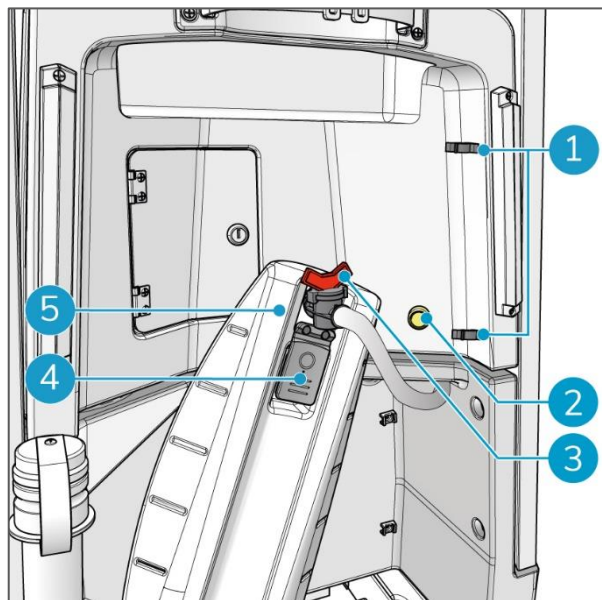

Figure 62
2. Take the filling tube out of the clamps (Figure 62, pos 1).
3. Open the stopper of the i-mop lite (Figure 62, pos 4).
4. Place the filling tube into the tank (Figure 62, pos 5).
5. Open the red valve (Figure 62, pos 3).
6. Push the yellow button (Figure 62, pos 2). The solution will be pumped into the i-mop lite tank.